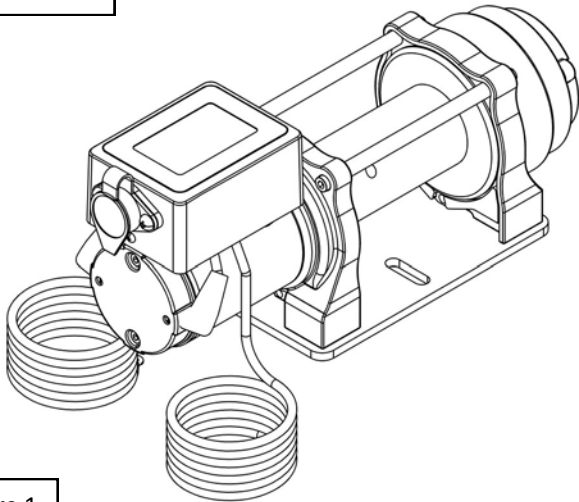

Figure 1
2. Place the control box on top of the hoist motor. See **Figures 1 and 2**.